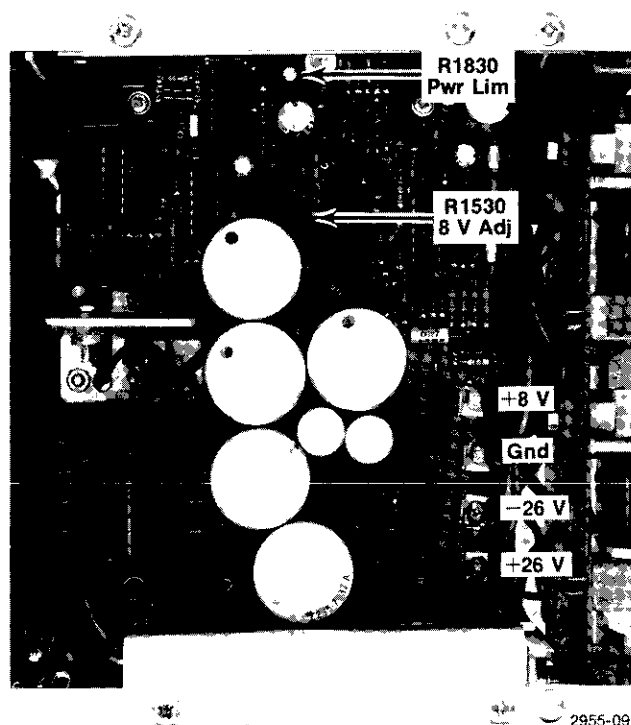

Fig. 4-3. Locations of voltage buses and adjustments.
Remove the top cover to gain access to the  $+8\text{ V}$  and ground buses and the adjustment. Figure 4-3 shows the adjustment locations.
a. Connect the dmm to the  $+8\text{ V}$  and Gnd terminals as shown in Fig. 4-2. The voltage bus location is shown in Fig. 4-3.